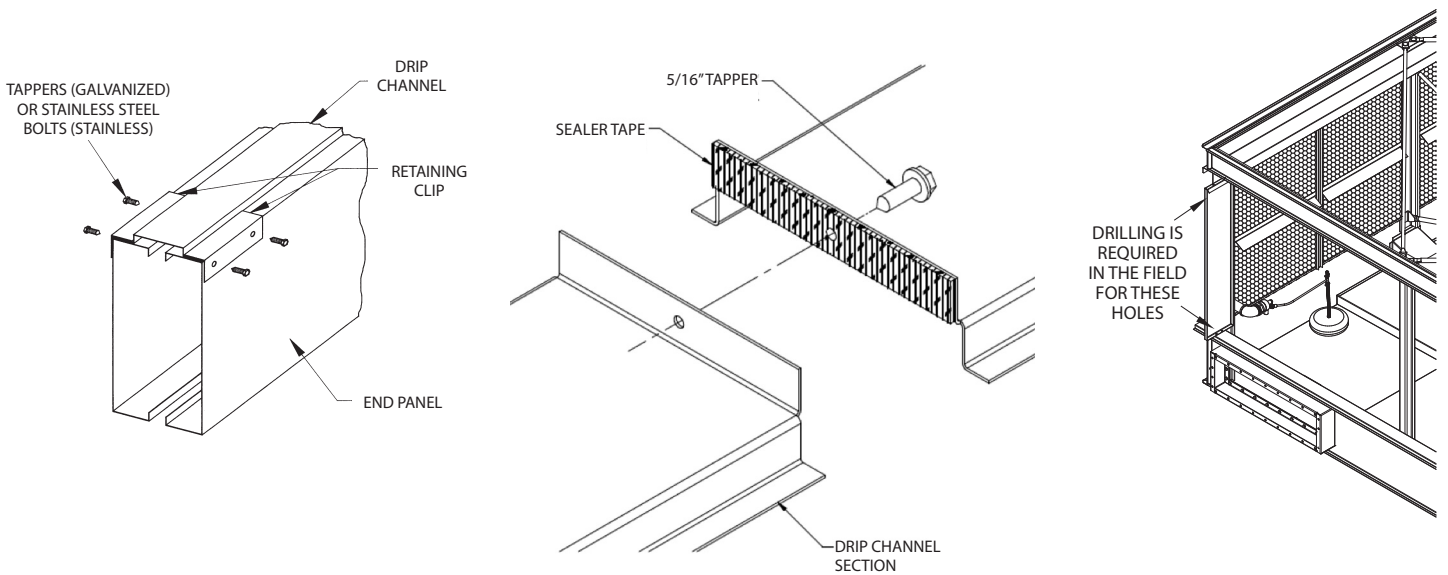

Figure 2a - Drip Channel and Vertical Splash Guard Installation
10. Place the vertical splash guard in the bend of the vertical supports. On galvanized units, attach the vertical splash guard using 5/16" self-tapping screws. On stainless steel units, attach the vertical splash guards using 5/16" stainless steel nuts and bolts. (See figure 2a)
11. Once the bottom of the vertical splash guard has been attached to the drip channel, place the filler cap channel in the upper flanges of the bottom section as shown in Figure 2a. Attach to vertical splash guards using 5/16" tappers (for galvanized units) or stainless steel nuts and bolts (for stainless steel units).